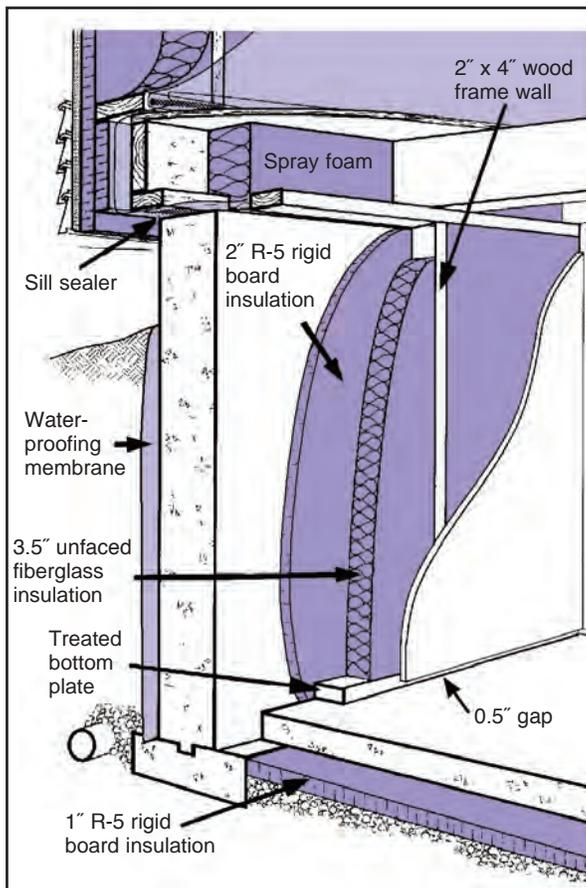

Fig. E-3: Interior insulated concrete foundation
- **Method 1** - 2 inches of XPS should first be attached to the concrete wall (see Figure E-3). The styrofoam can be attached using styrofoam-compatible adhesive and/or wood furring strips nailed through the XPS with power-driven nails or screws. The seams